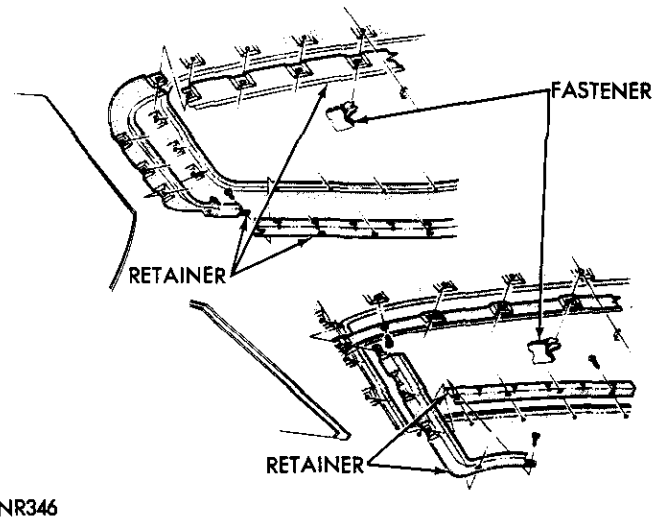

Fig. 5—Rear Window Head Lining Retainers
(6) Remove headlining at windshield header and from fasteners at rear window area (Fig. 5).